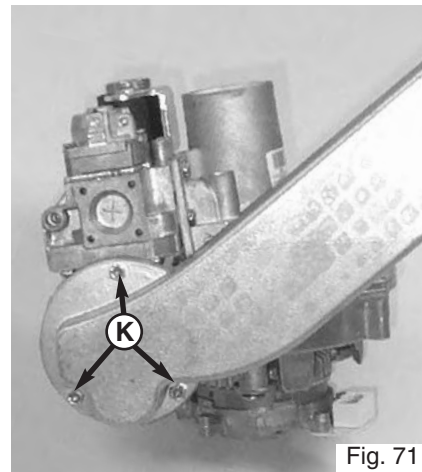

Fig. 71
4. Unscrew the three screws K on the air/gas pipe and remove (Fig. 71);